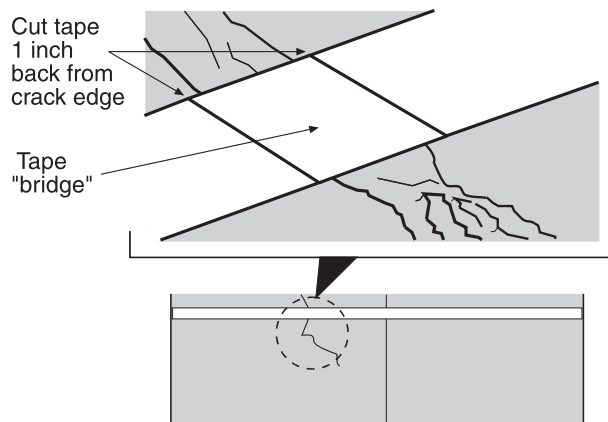

Figure 18.
**Note:** If there is a crack in the road that causes the tape to bridge, lay the tape over the crack, tamp the tape, and then cut the tape one inch from each side of the crack. (See Figure 18.)